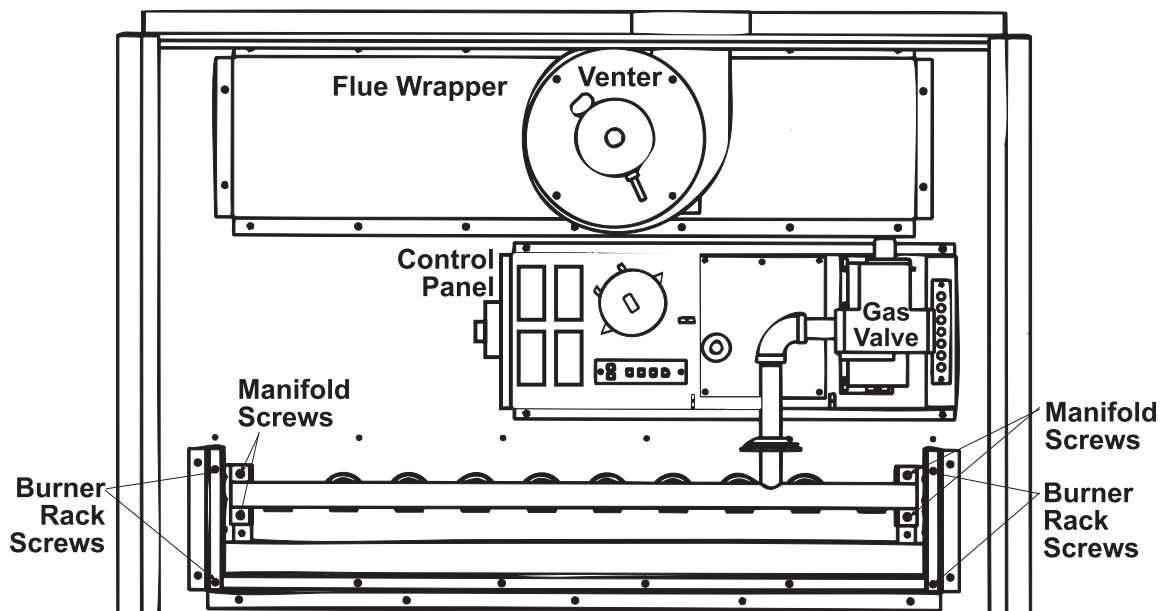

Figure 31. Burner Rack Removal
- b. Remove screws (see Figure 31) that secure manifold to burner rack. Slide manifold from burner rack.
- c. Remove screws (see **Figure 31**) that secure ends of burner rack to cabinet. Carefully pull burner rack away from heater.